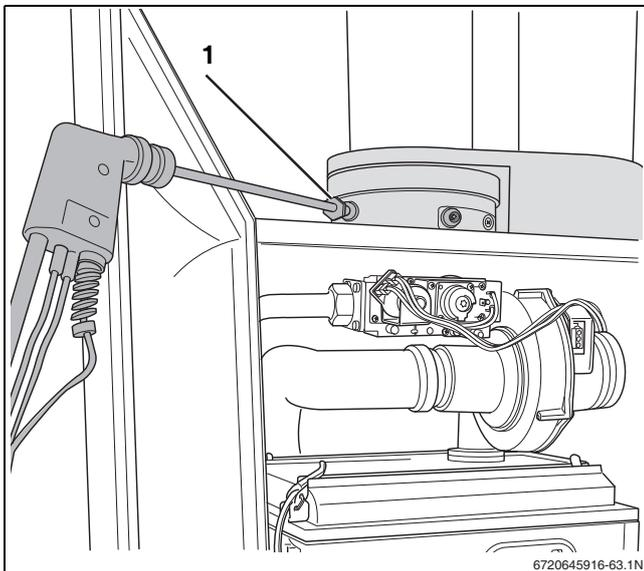

Fig. 67 Measuring the flue gases CO emissions
- ▶ Remove the cover from the flue gas measuring point (→ fig. 67, [1]).
- ▶ Connect the flue gas analyzer to the left-hand measuring point, insert it roughly 2" (→ fig. 67).